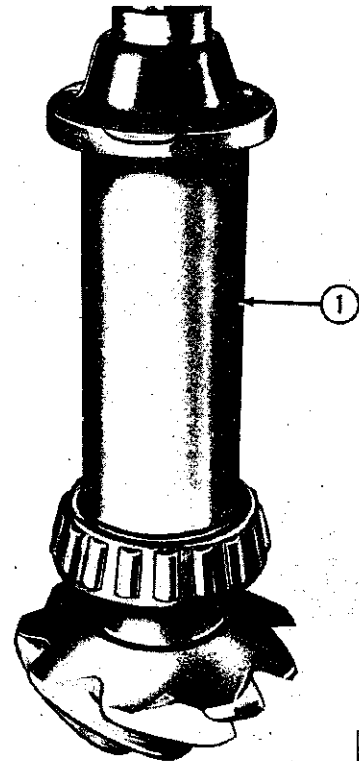

FIG. N-26—PINION BEARING INSTALLING SLEEVE
c. Use Tool C-3095 to press the inner bearing cone and roller onto the pinion shaft on axle Model 44. Other models use Tool W-262 as shown in Fig. N-26.